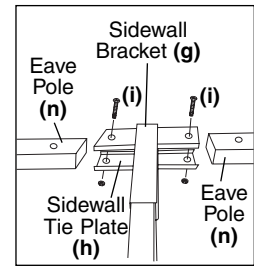

Fig. 11
- Connect other end of eave pole (n) to sidewall bracket (g) using tie plate (h) and 1" screws with nuts (i). (Fig. 11)